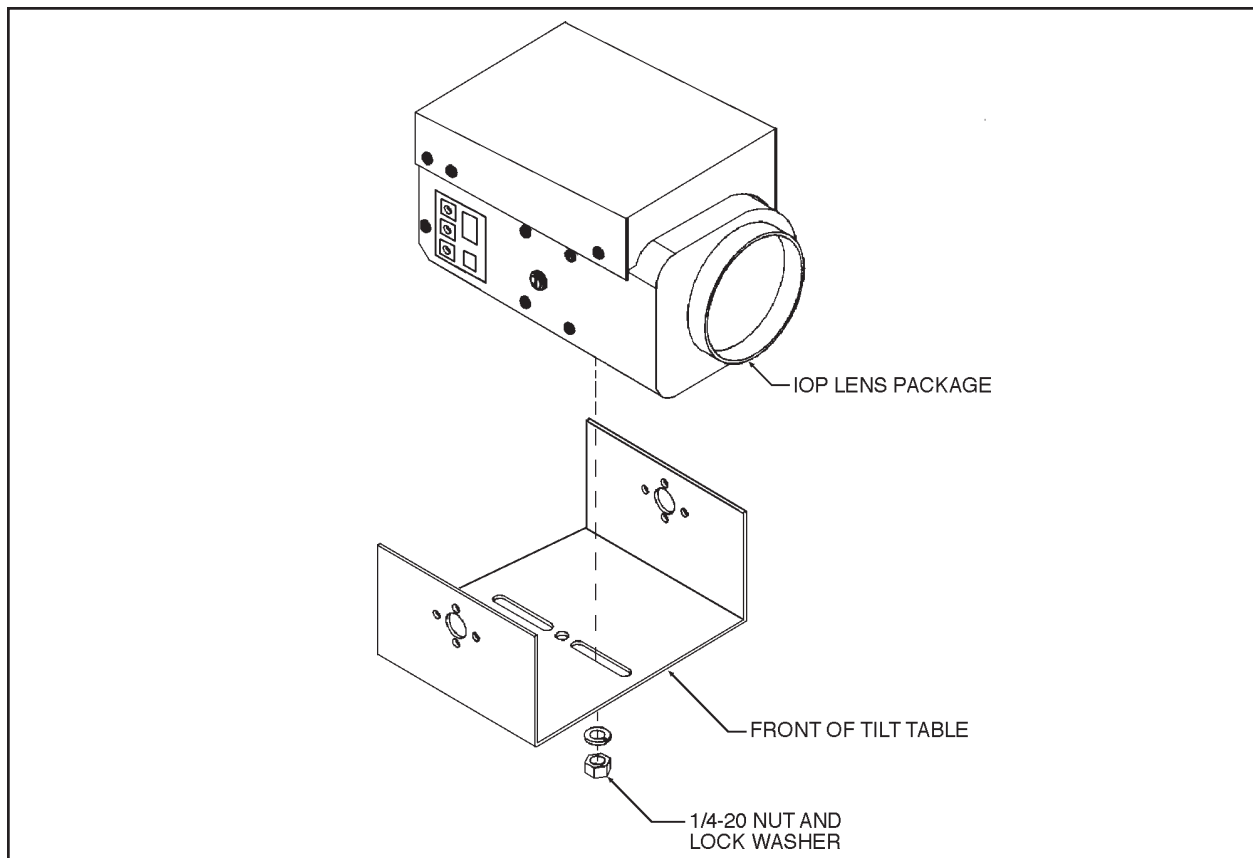

Figure 1. IOP Package Installation
3. Refer to Figure 1. Remove the nuts and flat washers from the 1/4-20 studs on the bottom of the IOP package. Insert the studs through the slots in the tilt table. Make sure the lens is facing the front of the tilt table. Attach the IOP package to the tilt table with the washers and nuts. Tighten the nuts just snug.